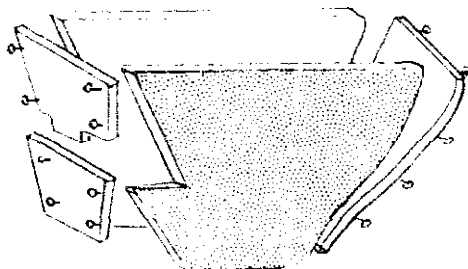

FIGURE 12
A water-seal bowl improves a latrine by keeping flies out of the pit and preventing odors from escaping. The mold described here (see Figure 12) has been made and used successfully in sanitary latrine programs in the Philippines. The advantage of this mold over a concrete mold is that it requires no drying time.
- o Nail the metal sheet around the curved back of the mold (see Figure 12).